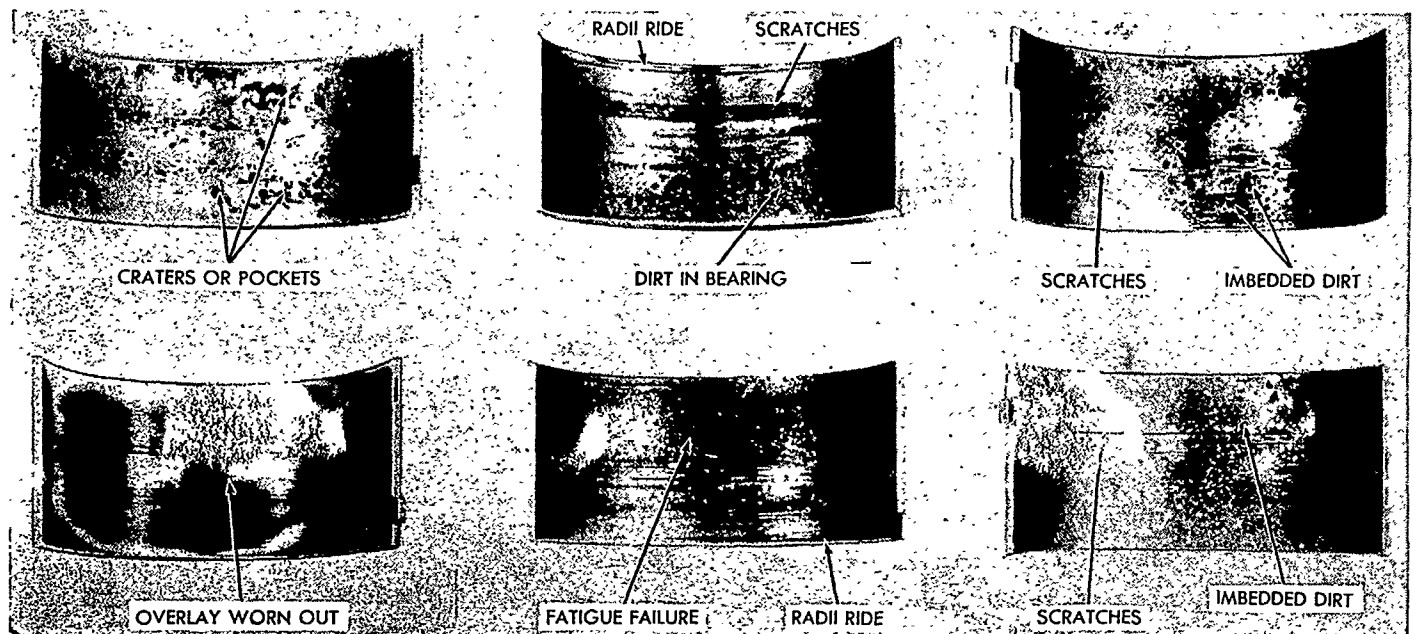

Figure 47
1. If the bearing liners are scored, have the flash overlay wiped out, show fatigue failure, or are badly scratched, as shown in Figure 47, install new bearing liners.